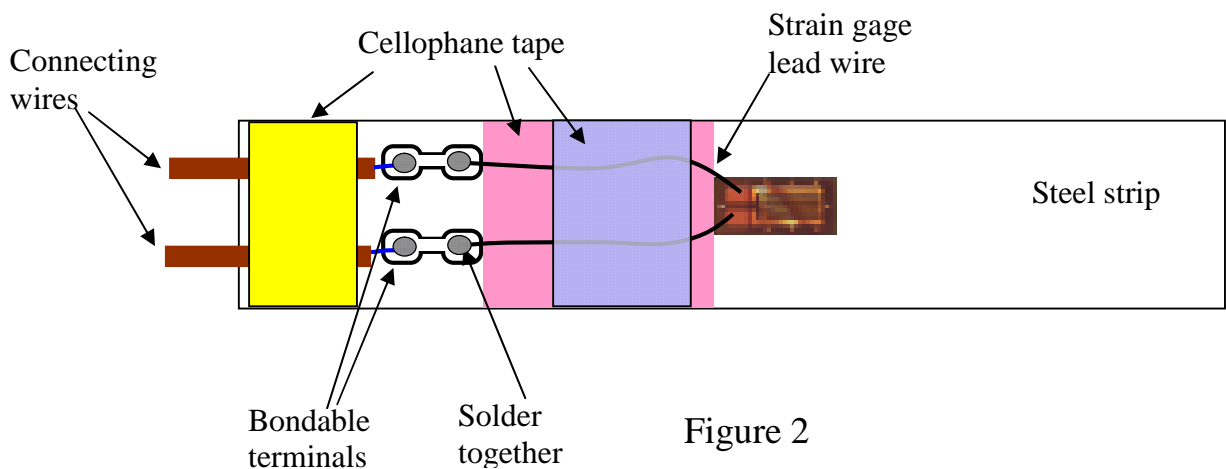

Figure 2
9. Remove the cellophane tape carefully. Stick a section of cellophane tape (pink) between the gage and the terminals to act as insulator (see figure 2). Solder the lead wires between the gage and the terminals. Stick another section of tape (orange) on top to fix and protect the lead wires. During soldering, the soldering iron tip must be clean and shiny to enable a good joint. The resulting solder joint should wet the wire thoroughly and is also shiny.